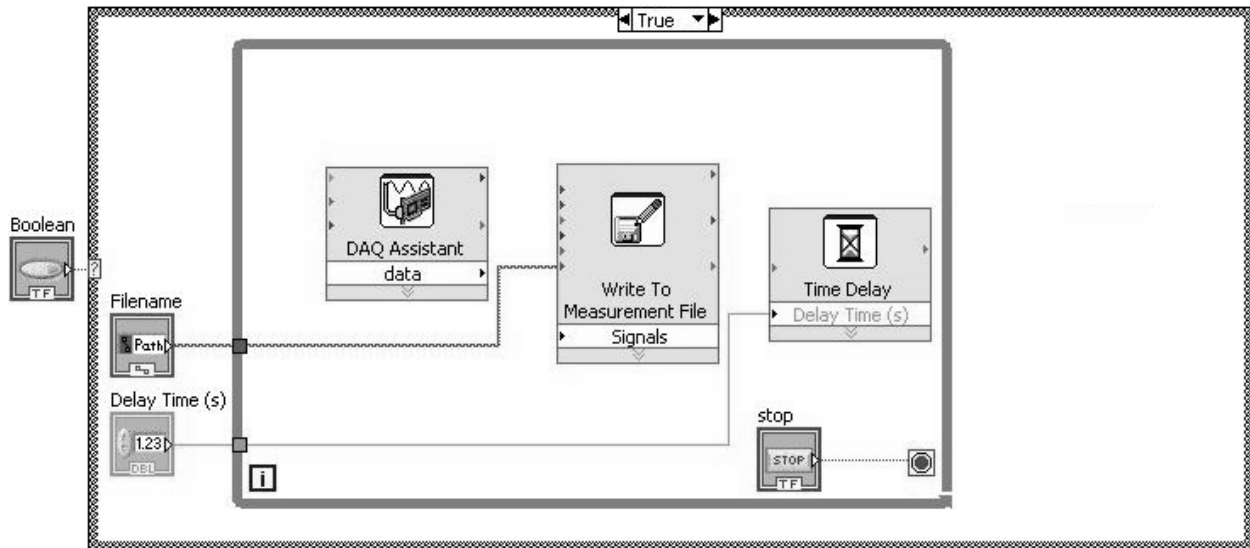

Figure 1.4.9 Intermediate view of the block diagram after the While Loop is created
**23.** Select **Express>>Execution Control>>While Loop**, place the cursor to the upper left of the three Express VIs, left-click the mouse and hold it down, drag the icon to the lower right to enclose the three Express VIs (but not the controls to the inputs of these Express VIs) as shown in Fig 1.4.9, and release the mouse key to create the While Loop.